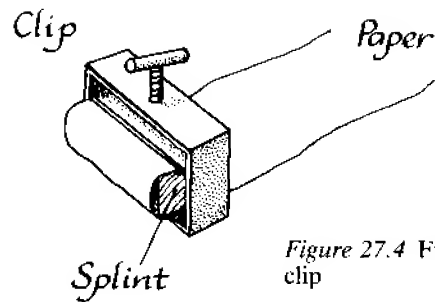

Figure 27.4 Fitting the screw clip
4. Fit a screw clip to the other end (see Figure 27.4).